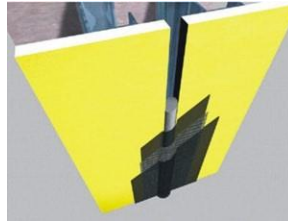

Fig. 15
- c. Using a brush or 3/4 in (19 mm) nap roller, apply a liberal coat of AquaFlash Liquid material to the backer rod and adjacent substrate surface to the width of the AquaFlash Mesh - Figure 15.